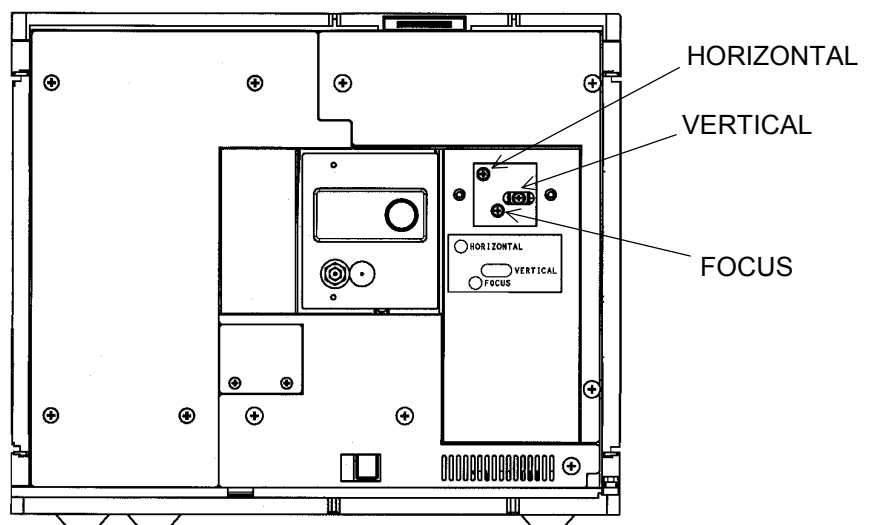

Fig. 5-9 Lamp Positional Adjustment
- (vi) In this status, place a paper strip at the Ex beam exit center of the sample compartment as shown in Fig. 5-9 and observe the condition of the excitation beam.